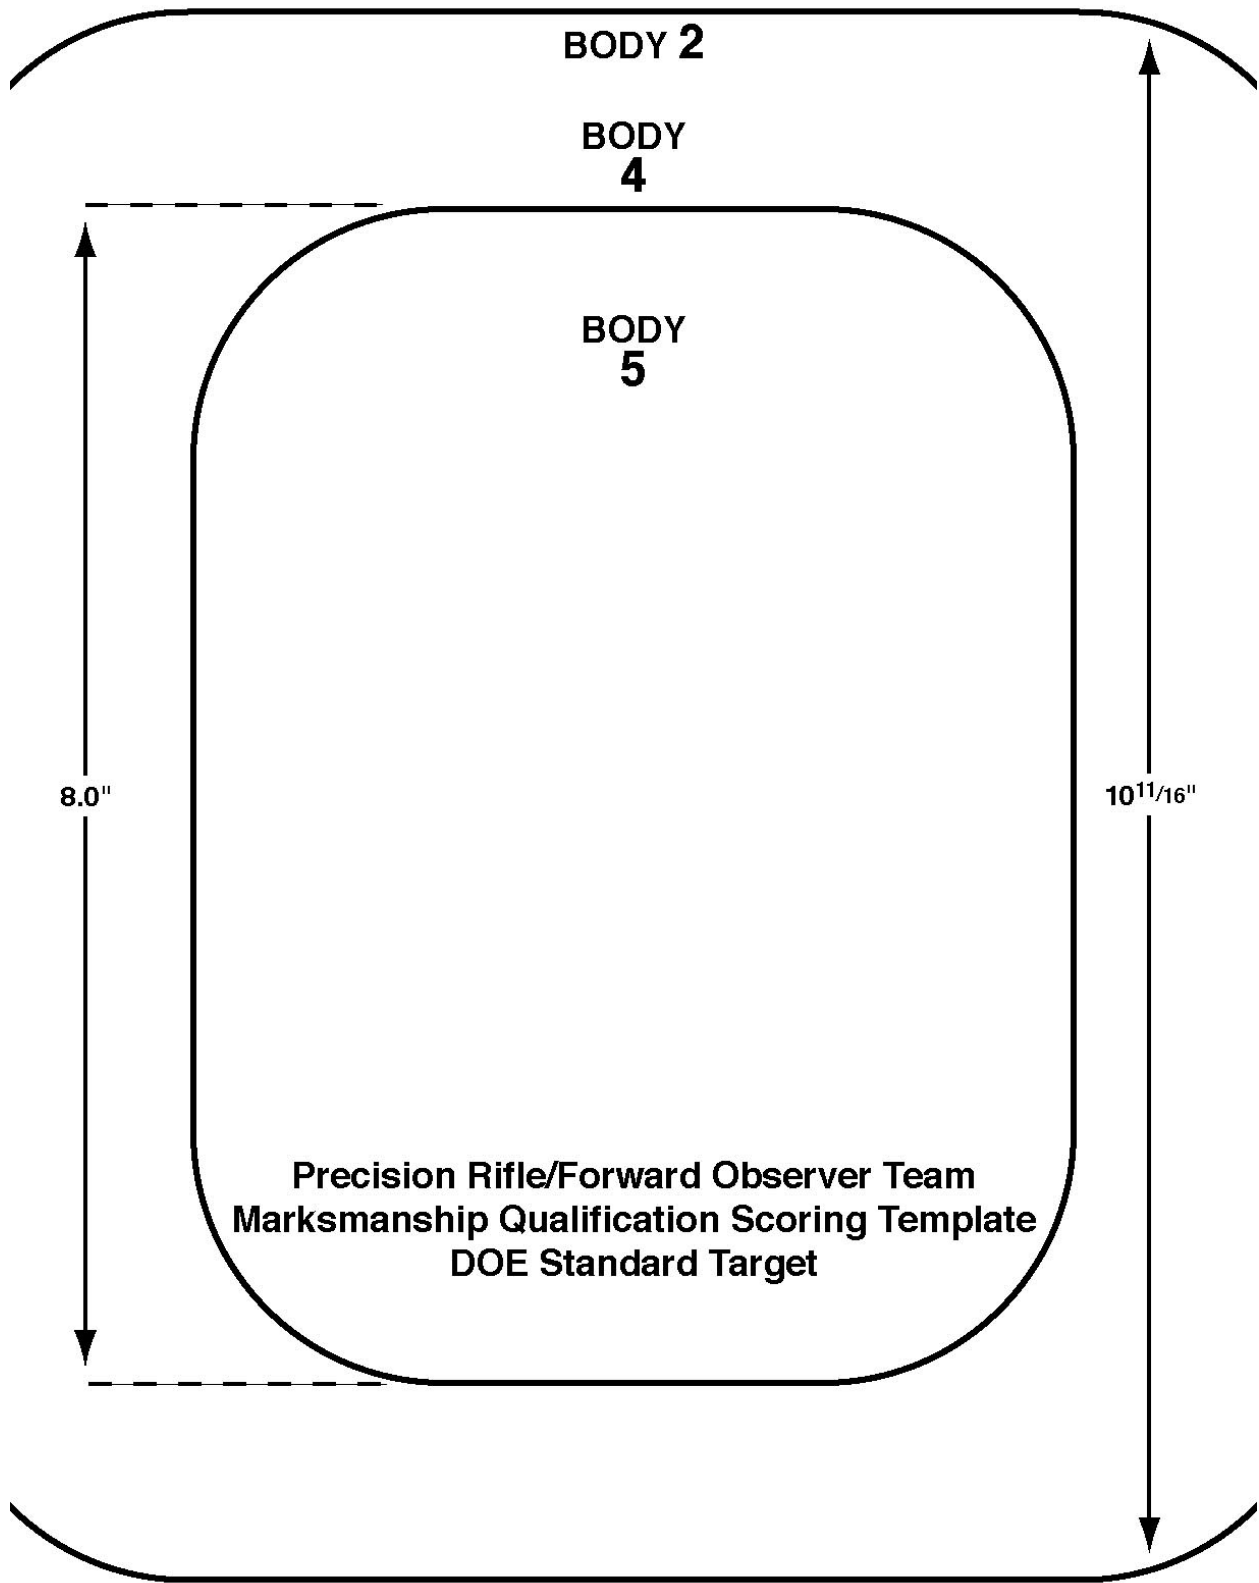

Figure 2. Center of Mass Scoring Template
2. CENTER OF MASS SCORING TEMPLATE. The Center of Mass Scoring Template for the Precision Rifle Qualification Courses consists of an inner scoring ring/area (the same shape as the center mass section of the DOE Standard Target) placed inside the existing center mass section of the DOE Standard Target (see Figure 2).